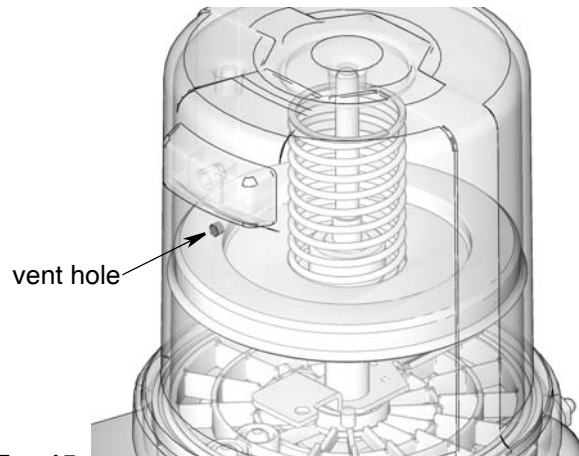

FIG. 15
3. Fill reservoir with grease until seal of follower plate breaches the vent hole (FIG. 15) and the majority of air is expelled from the reservoir.